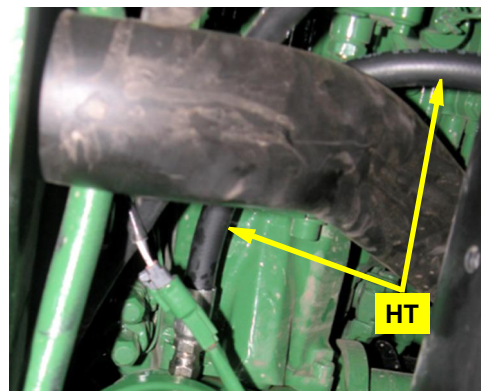

Figure 7a: Tank hose connected at filter head
b. Install the tank hose **HT** between the adapter fitting **HK** installed at the hydraulic filter head (at step 5b) and the T port of the hydraulic steering block (Figures 7a and 7b). Route and tie the hose along the right side of the frame, under the cab then out to the steering block.